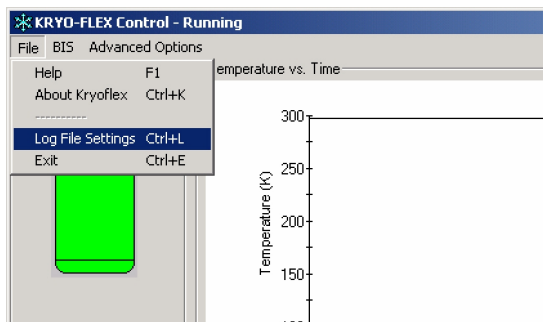

Figure 3. KRYO-FLEX Control-Running window
1. Click File > Log File Settings to have the KRYO-FLEX control create a log file of the recorded temperatures (Figure 3).